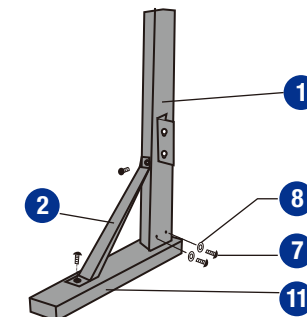

Fig. 1
Attach column (1) to the bottom feet (11) using bolts (7) and spring washers (8) to secure. Secure one column support (2) to each column (1) and bottom feet (11) using bolts (7) and spring washers (8) as shown in Fig. 1.